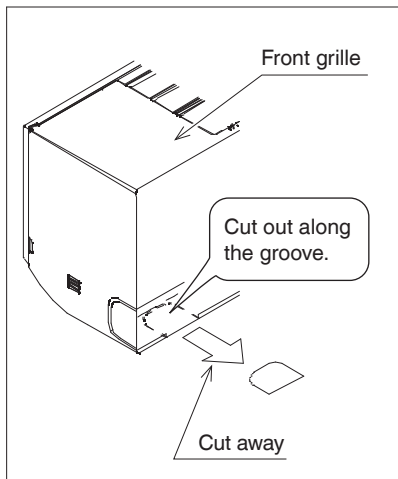

Fig. 4
- (3) If using the left, bottom-left, or bottom-right positions for the piping, cut out the through hole for the piping in the front grille. (Refer to Fig. 4)